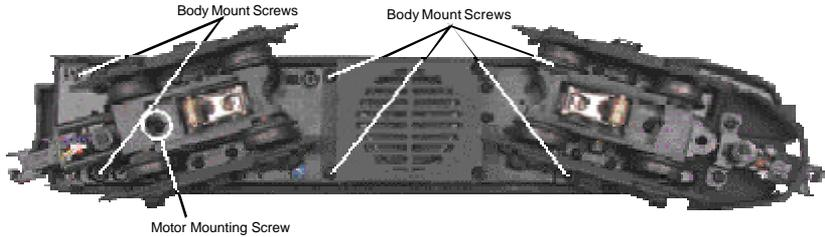

Figure 6: Body Mounting Screw Locations
1. To access the gear box, remove the cab from the chassis by unscrewing the chassis screws as seen in Figure 6 and lifting the cab from the chassis.
2. Once the cab is removed, remove the trucks by unscrewing the black Phillips motor mount screw located on the underside of the drive trucks (see Fig. 6).